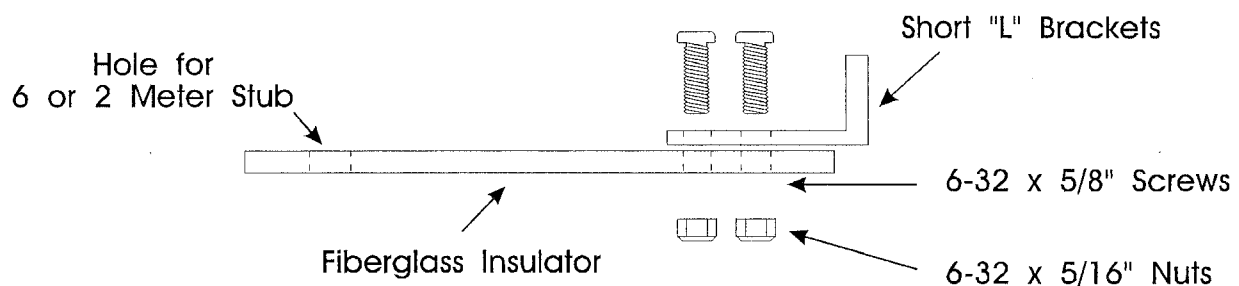

Figure 1
- [] 4. Assemble the four small "L" brackets to the 4 long fiberglass insulators with the 6-32 x 1/2" screws and the 6-32 x 5/16" nuts as shown in Figure 1.